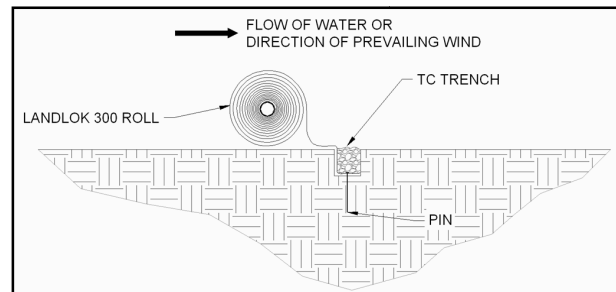
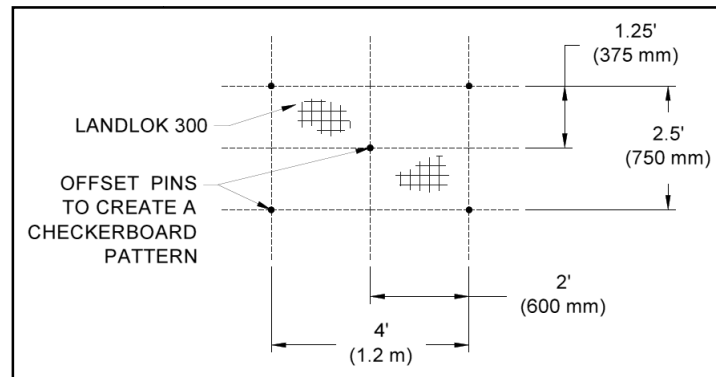
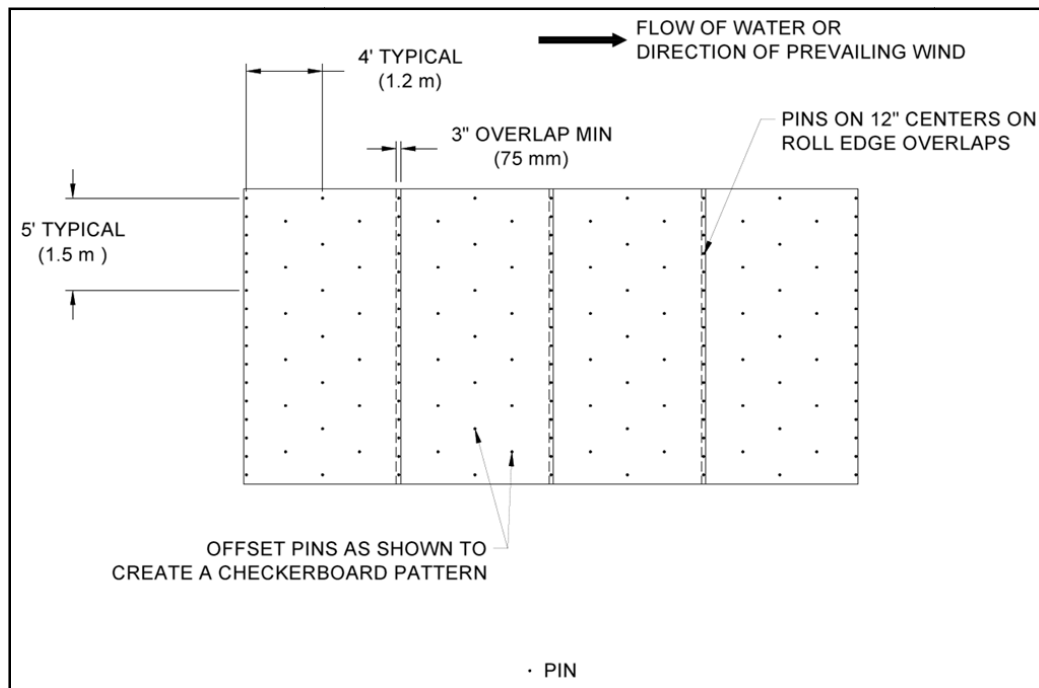

Figure 10: Terminal Channel (TC) Trench Placement
Figure 12: Example Pin Pattern
Figure 13: Example Edge Overlap Pattern
7. For channel lengths greater than the length of the Landlok 300 Rolls available, place additional Landlok 300 panels by laying the Landlok 300 rolls on the upstream side of the TC trench so that the roll end points towards the TC trench (Figure 10), with a 3 inch (75 mm) overlap created at adjacent panel edge locations. Ensure that adjacent panel edges maintain a minimum 3 in (75 mm) overlap during Landlok 300 laydown. (Figure 13)
13. Secure Landlok 300 panels in place using pins across the channel surface according to the project's engineered design. Pin placement should reflect a staggered checkerboard pattern across the channel surface for best results (Figure 12 and Figure 13).